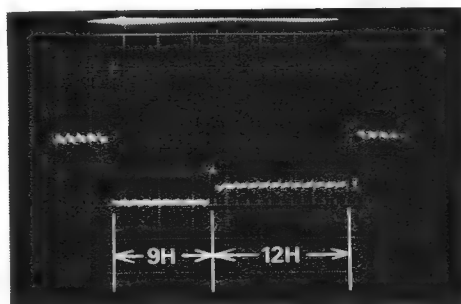

Fig 7.25
- (2) Shoot the white pattern and adjust the iris control mechanism as appropriate
- (3) Starting from vertical retrace, adjust R42 **V CENT** volume on the Def and Power PCB (CA 4501A) at the 12th horizontal retrace as shown in Figure 7.25
- (4) Remove the RC jumper